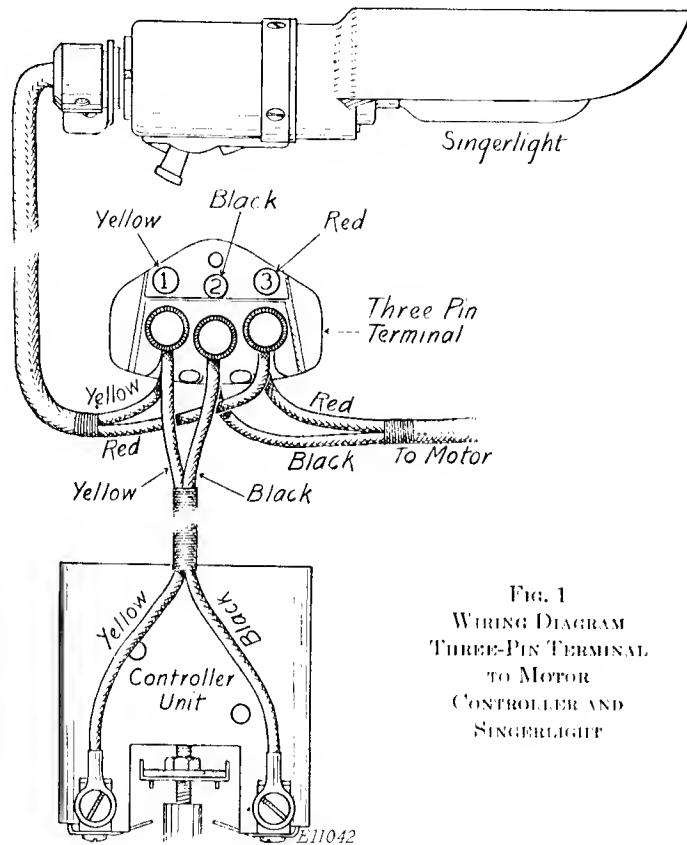
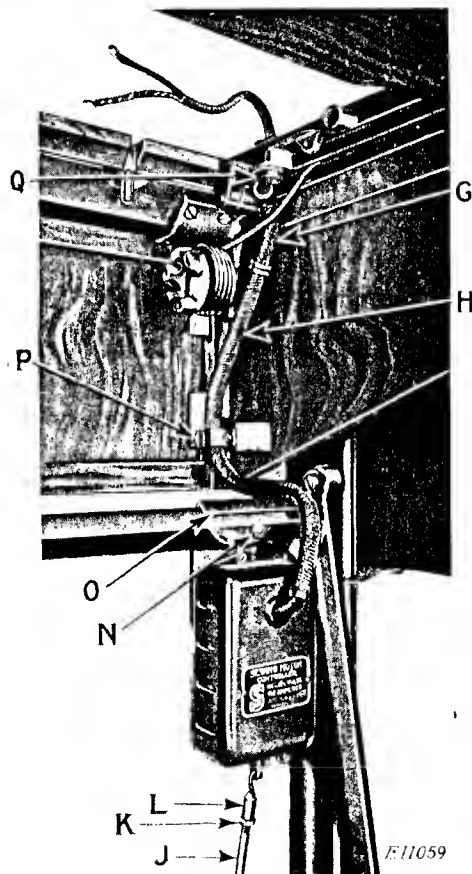

FIG. 1
FIG. 3. TREADLE CONTROLLER ON STAND 46913 AND CABINET 404
Motor Leads—Fasten the lead with the **red** tracer thread to the **red** pin No. 3, and fasten the solid **black** motor lead to the **middle** pin No. 2, as illustrated in Fig. 1.
four screws in the cabinet as shown at (D). This brings knee controller lever just below the front of the cabinet as shown by (C). Put cable housing (E), containing controller leads, in clip (F). Pass the controller leads up through bushing (A) and attach controller leads to three-pin terminal as indicated by Fig. 1, Wiring Diagram.
Disconnect the controller leads from pins Nos. 1 and 2 of three-pin terminal. Draw controller leads down through lifting plate bushing (Q, Fig. 3). Remove cable housing (H) from clip (P). Loosen nut (K) and unscrew pitman rod (J) from connection (I). Remove nut and screw (N) which fasten controller bracket (O) to treadle frame. When replacing, attach bracket (O) to treadle frame by means of screw and nut (N). Attach pitman rod (J) to connection (I) by screwing upper end of pitman rod into base of connection as shown in Fig. 3. Tighten nut (K) against base of connection (I). Put long cable housing (H) in clip (P) and place short cable housing (G) above housing (H) as shown in Fig. 3. Pass controller leads up through bushing (Q) and attach controller leads to three-pin terminal as shown by Fig. 1, Wiring Diagram.